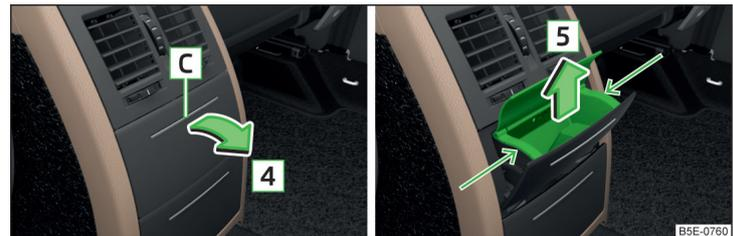

Fig. 82 High centre console: Open rear ashtray / Removing rear ashtray insert
- Press in the cup holder in area **[C]** » Fig. 82.
- Press the cover carefully to the stop in the direction of arrow **[4]** » Fig. 82.